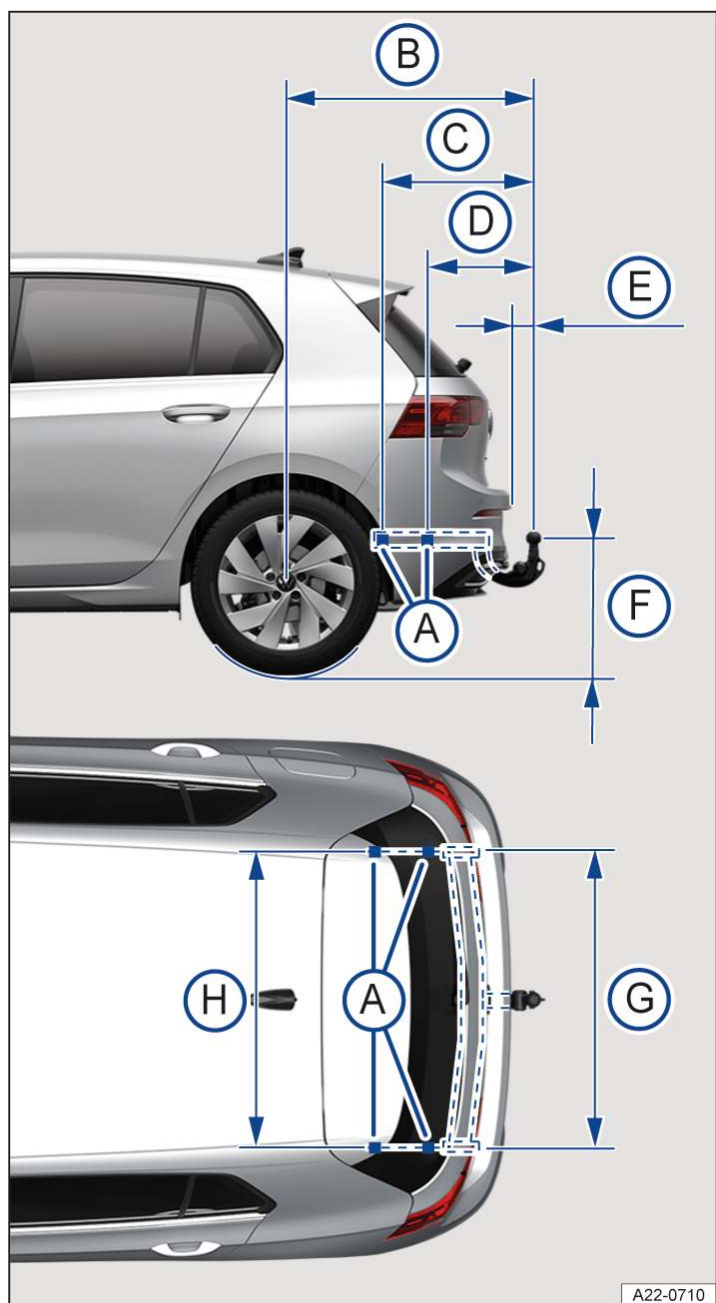

Fig. 1 Dimensions and mounting points for retrofitting a towing bracket.
The distance dimensions → *Fig. 1* must be observed in all cases when retrofitting a towing bracket. Always observe the minimum distance given from the middle of the ball head (F) to the surface of the road. This also applies when the vehicle is fully laden, including maximum drawbar load.
- (A) Attachment points.
- (B) 851 mm (approx. 33.6 in)
- (C) 532 mm (approx. 21 in)
- (D) 312 mm (approx. 12.3 in)
- (E) at least 65 mm (approx. 2.6 in)
- (F) 350 to 420 mm (approx. 13.8 to 16.5 in)
- (G) 1,043 mm (approx. 41 in)
- (H) 1,048 mm (approx. 41.3 in)